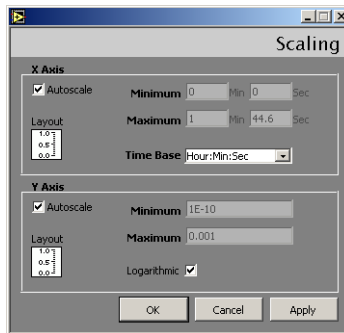

Figure 2-7 Scaling
Use Figure 2-7 to set up the chart preferences.
1. Click **Chart Setup** on the *Chart* tab of the Operations screen and Figure 2-7 appears.